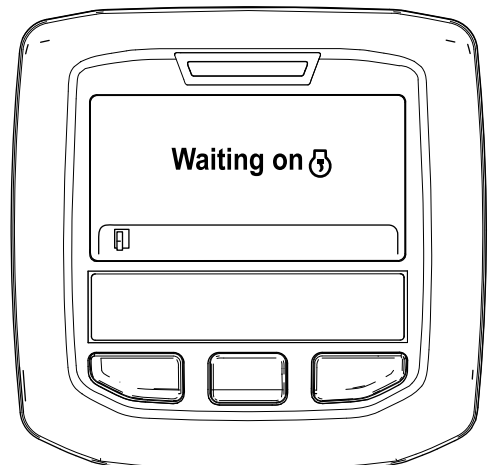

Figure 39
- B. The "Waiting on [engine icon]" message displays (Figure 39).